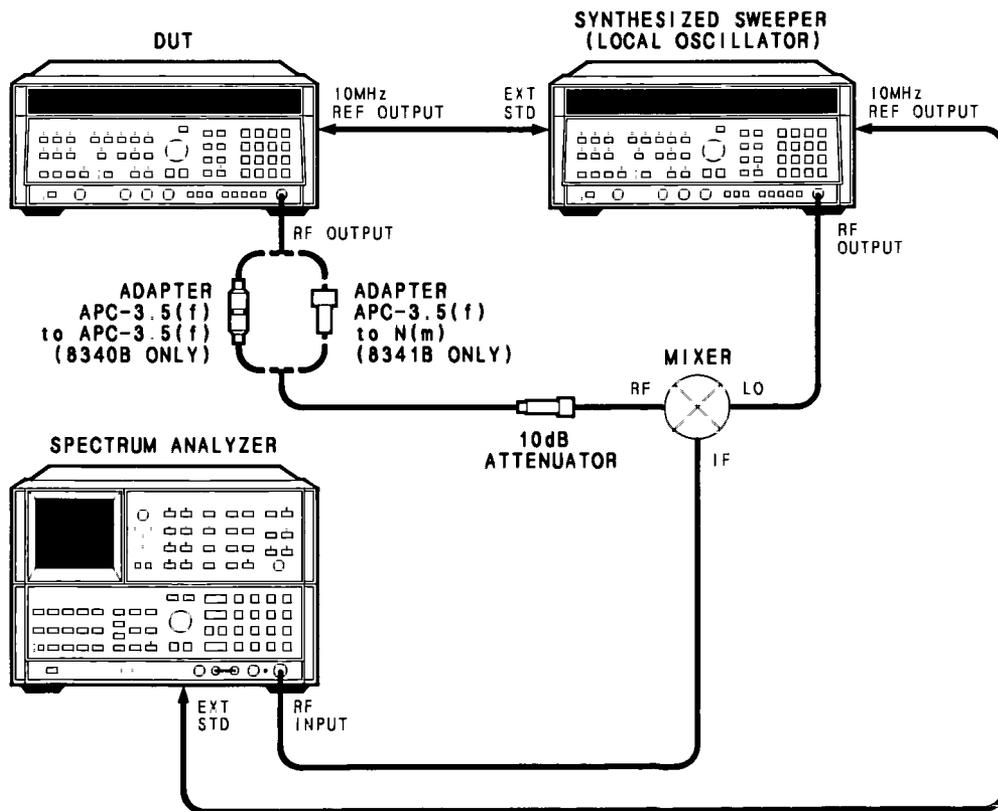

Figure 5-43. Unleveled Squegging Test Setup
70. Connect equipment as shown in Figure 5-43. Connect the mixer at the Local Oscillator's (LO) RF output connector to obtain maximum mixer LO input level. Set the LO and spectrum analyzer to external standard. Allow at least 30 minutes warm up time.